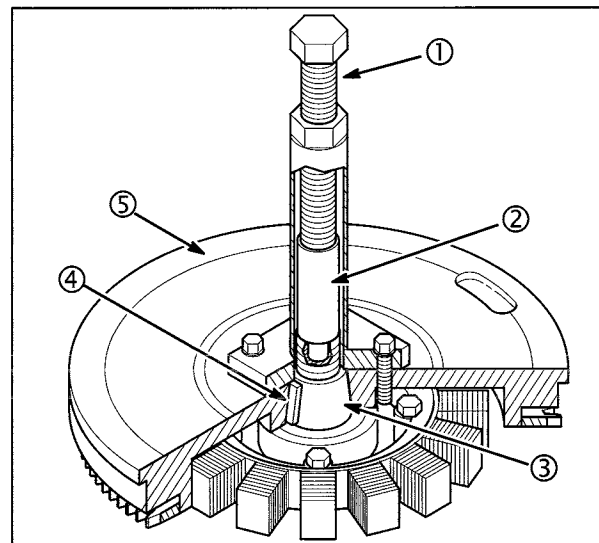

Fig. 19
1. With pilot (2) installed to the crankshaft (3), place the flywheel with puller attached, onto the pilot, Fig. 19.
2. Align the flywheel keyway mark with the crankshaft key (4). Slowly loosen the flywheel puller screw (1) to lower the flywheel (5) into position over the stator. Be certain that the crankshaft key engages the flywheel keyway.